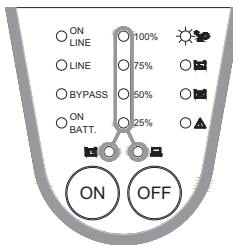

Fig. 4-8 Short Circuit
- ✓ **SHORT CIRCUIT:** When the UPS output short circuit occurs in “ON-LINE Mode” or “ON-BATTERY Mode”, the UPS will turn off the inverter (without output voltage). As soon as the short circuit happens, the fault LED will light on and the UPS alarm will sound continuously. While removing short circuit, the UPS output will recover. If short circuit happens in “BYPASS Mode”, the UPS will protect itself by tripping the input breaker and shut down. See Fig. 4-8.